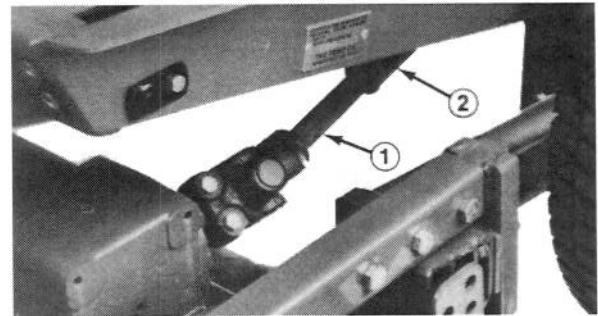

Figure 10
5. Stop engine and slide the cutting unit away from the traction unit and carrier frame, separating male and female sections of the PTO shaft (Fig. 10).